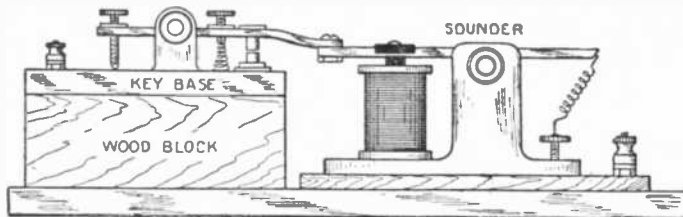

FIG. 3
The phone shell is drilled as shown in Fig. 3, to take the 4/32 brass machine screws. Eighty-four brass spacing washers, .025 inch thick (outside diameter 9/32, inside diameter 4/32), are used in assembling the plates. The shaft is a 4/32 machine screw. The piece (O) is an adapter, threaded to take the shaft, and also to fit the knob (N). (M) is a brass bushing taken from the base of a binding post; it is shellaced to the phone shell (L). The dimensions of the plates will, of course, depend upon the case used.
The detector is mounted on the back of the composition receiver shell. Details of its construction are given in Fig. 3. Two
In the operating room, a 6-volt storage battery B—a switch, S—a resistance, R1—a key, K—and a 6-volt signal lamp, L—are installed. The additions to the transmitting apparatus are a relay, R—and a home-made piece of apparatus indicated by X—. The latter is detailed in Fig. 3. It merely consists of an ordinary transmitting key and sounder mounted on a base. The key is elevated above the base by means of a large wooden
ance and the phones are all in series. In Fig. 3 we have a parallel connection where the current coming down from the antenna has two paths through which to flow. In Fig. 4 we have a series connection, for the *cmf*, which arises within the condenser formed by the antenna and ground, causes a current to flow successively through the antenna (capacity), the coil, and the condenser. In Fig. 5 we have another series connection. This is the secondary tuning coil in series with the variable condenser. This may look at first sight like a parallel connection, but it must be remembered that the *cmf* is generated within the windings of the coil, and therefore it can be regarded as in series with the rest of the